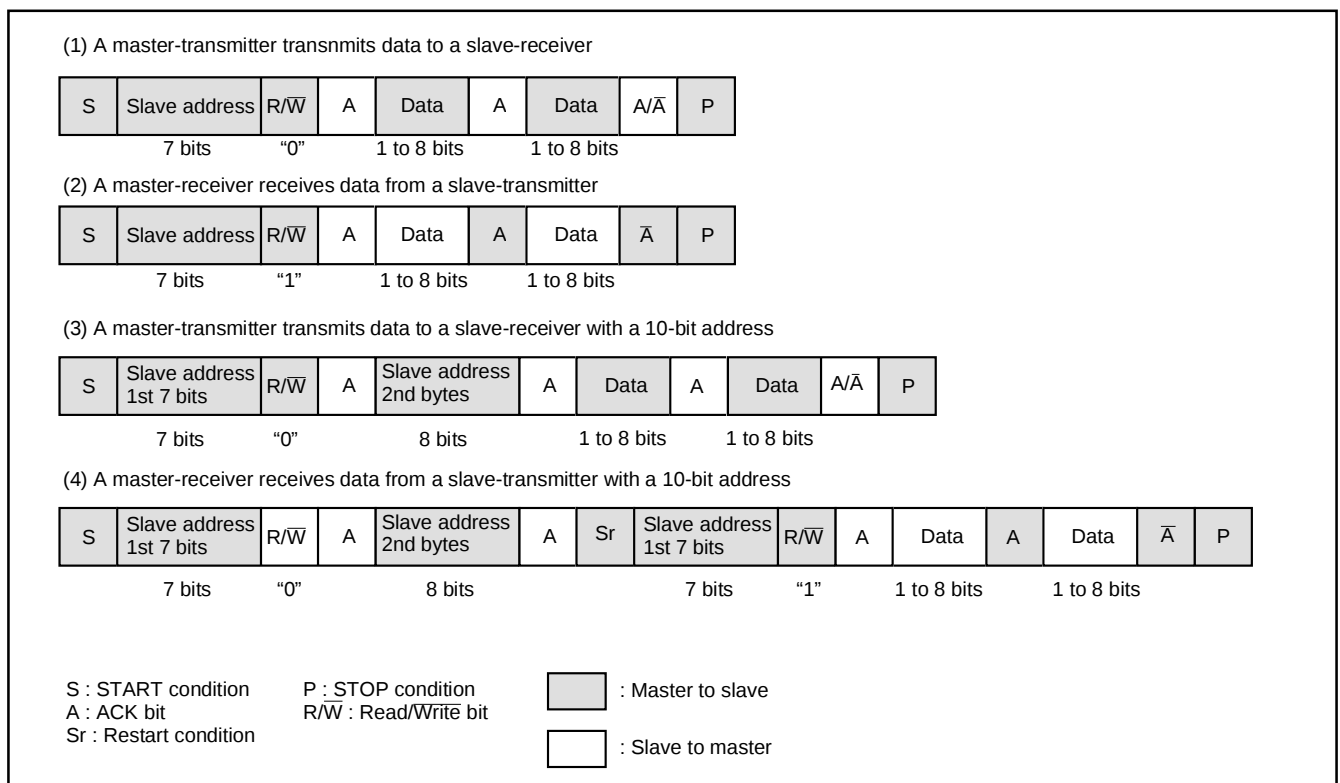

Fig. 39 Address data communication format
① 7-bit addressing format
To adapt the 7-bit addressing format, set the 10BIT SAD bit of the I²C control register (address 002E16) to "0." The first 7-bit address data transmitted from the master is compared with the high-order 7-bit slave address stored in the I²C address register (address 002C16). At the time of this comparison, address comparison of the RWB bit of the I²C address register (address 002C16) is not performed. For the data transmission format when the 7-bit addressing format is selected, refer to Figure 39, (1) and (2).
② 10-bit addressing format
When the first-byte address data agree with the slave address, the AAS bit of the I²C status register (address 002D16) is set to "1." After the second-byte address data is stored into the I²C data shift register (address 002B16), perform an address comparison between the second-byte data and the slave address by software. When the address data of the 2 bytes agree with the slave address, set the RWB bit of the I²C address register (address 002C16) to "1" by software. This processing can make the 7-bit slave address and $R/\overline{W}$ data agree, which are received after a RESTART condition is detected, with the value of the I²C address register (address 002C16). For the data transmission format when the 10-bit addressing format is selected, refer to Figure 39, (3) and (4).